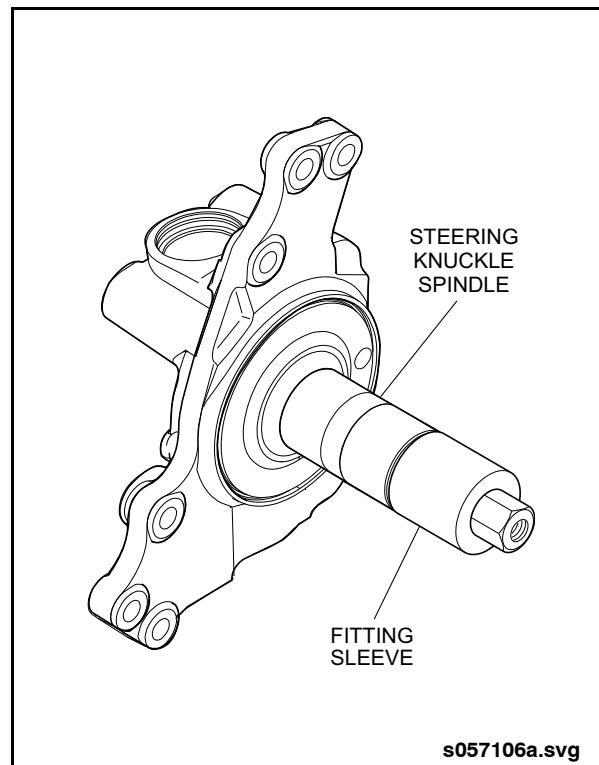

Fig. 1-16: Hub Fitting Sleeve Installation
2. Thread the fitting sleeve (Item 42 from special tools list) onto end of spindle. See "Fig. 1-16: Hub Fitting Sleeve Installation" on page 18.